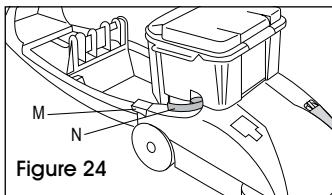

Figure 24
1. Step on handle release pedal (M) and lower handle until it rests on the floor. Rotate recovery tank latches (N) outward (one on each side of tank). Lift tank off of cleaner and carry it to a sink or drain. (See Figure 24)